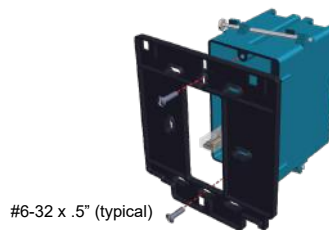

Figure 13: Back Plate Installation
5. Attach the bracket to a single or double gang box with flat-head screws as shown in Figure 13. (screws and gang box not included).